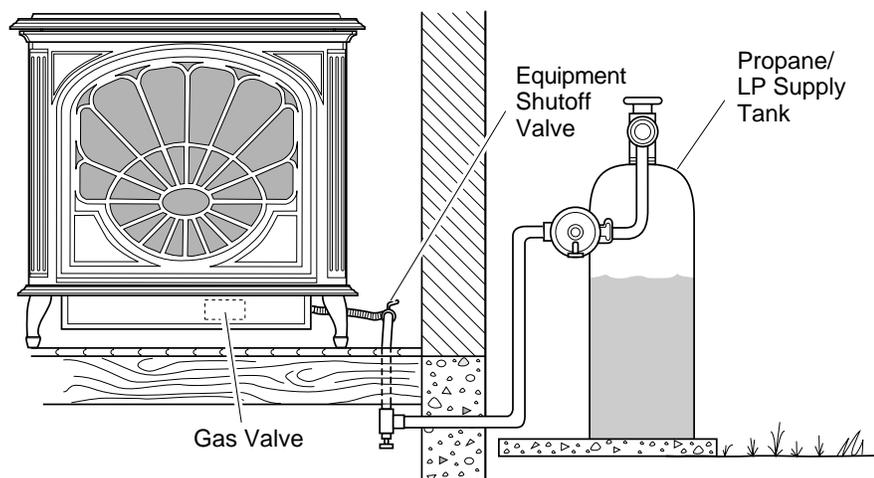
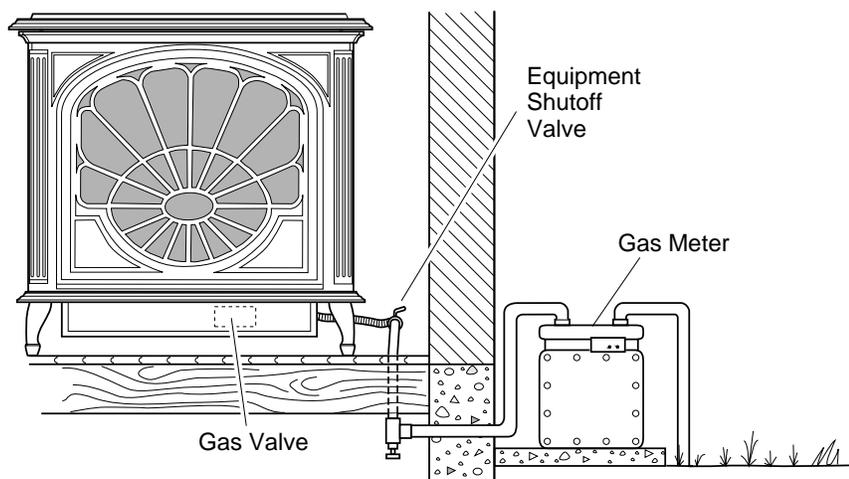

Figure 32 - Checking Gas Joints for Propane/LP Gas Burner System
Figure 33 - Checking Gas Joints for Natural Gas Burner System
3. Check all joints from propane/LP supply tank or gas meter to equipment shutoff valve (see Figure 32 for propane/LP or Figure 33 for natural, page 15). Apply commercial leak test solution to all gas joints. Bubbles forming show a leak. Correct all leaks at once.
4. Check all joints from equipment shutoff valve to thermostat gas valve (see Figure 32 for propane/LP or Figure 33 for natural, page 15). Apply commercial leak test solution to all gas joints. Bubbles forming show a leak. Correct all leaks at once.